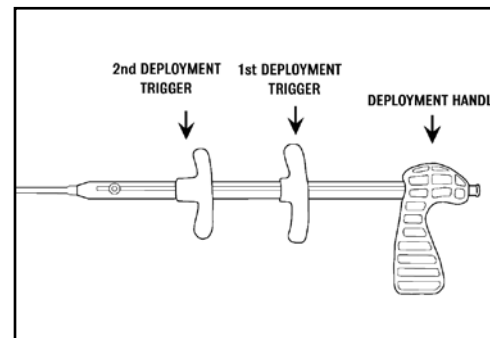

Figure 8. The delivery catheter has two deployment triggers which allow the user to deploy the stent in 2 steps.
- 5.1 The delivery system has a handle with 2 deployment triggers enabling the user to deploy the stent in 2 steps (Figure 8). Please ensure that the two deployment triggers are ~2 inches apart. If not, slide the first trigger (Figure 8) towards the handle until you feel slight resistance.